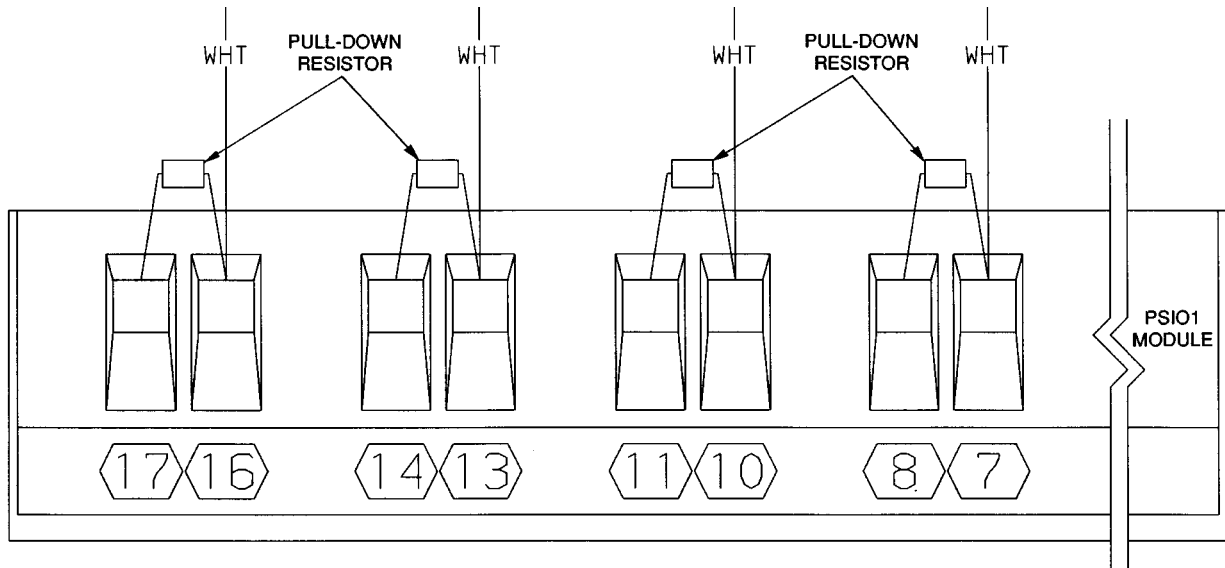

Fig. 17 — Pull-Down Resistor Terminal Locations
*See Fig. 17 for terminal locations. The replacement part number is 30GT511210.